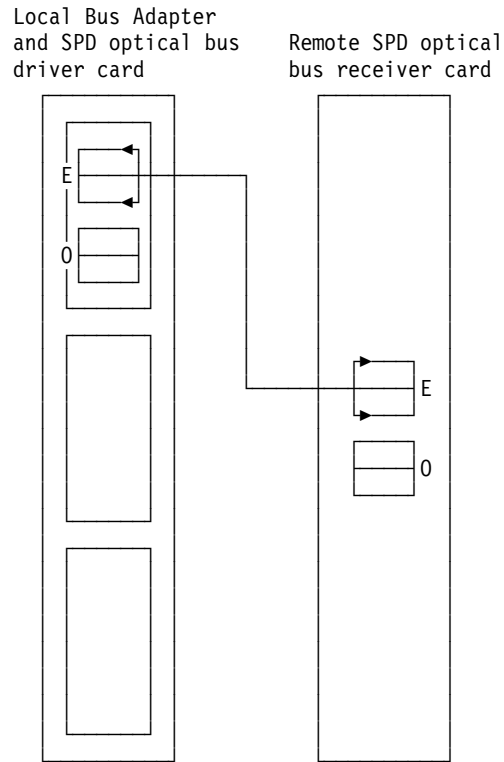
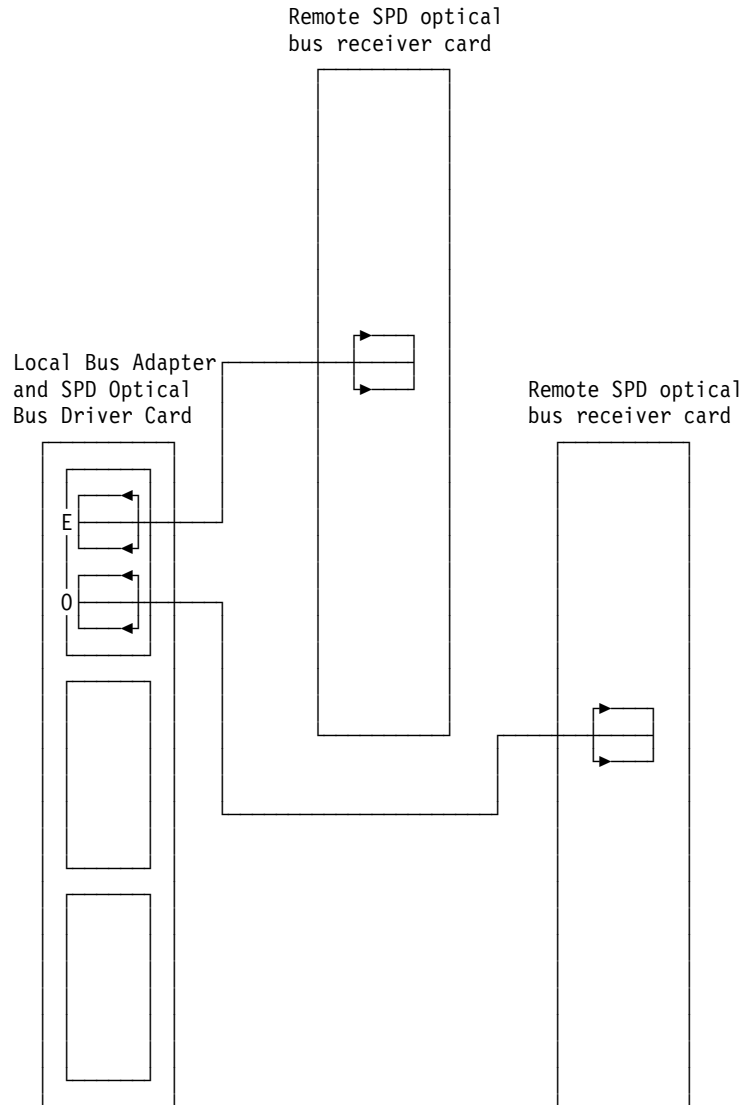

Figure 6. Example Single Bus
Figure 10. Example Single Bus Connection, No Redundancy
- Use the system configuration list, and Figure 6 through Figure 10 on page 285 to identify the correct configuration for your system. Verify that the optical bus cable connections are correct. Use the *AS/400e server 170, 250, 6xx, 7xx, and Sxx System Installation and Upgrade* or *AS/400e server 270 and 8xx System Installation and Upgrade* if you need to verify the system configuration rules.